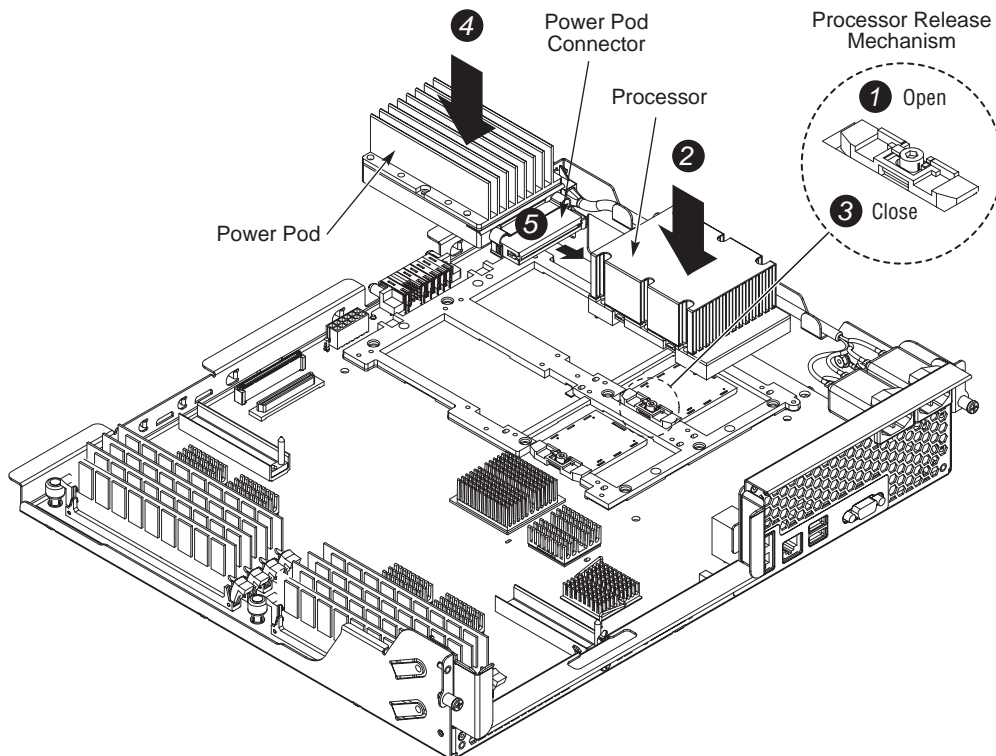

Figure 63. Installing a Processor and Power Pod
To install a processor, refer to *Figure 63* and follow these instructions:
1. Before trying to insert the processor, verify that the processor release mechanism is in the open or unlocked position. See number 1 in *Figure 63*.
2. Position the processor, with heat sink attached, over the processor socket, inside the four posts. See number 2 in *Figure 63*. When the processor is centered in the socket, the weight of it will cause the processor to drop into the socket; do not apply force.
4. Using a 2.5-mm hex driver, rotate the processor release mechanism 90 degrees clockwise so that the indicator tab shows the processor socket is locked. See number 3 in *Figure 63*.
To install a power pod, refer to *Figure 63* and follow these instructions: